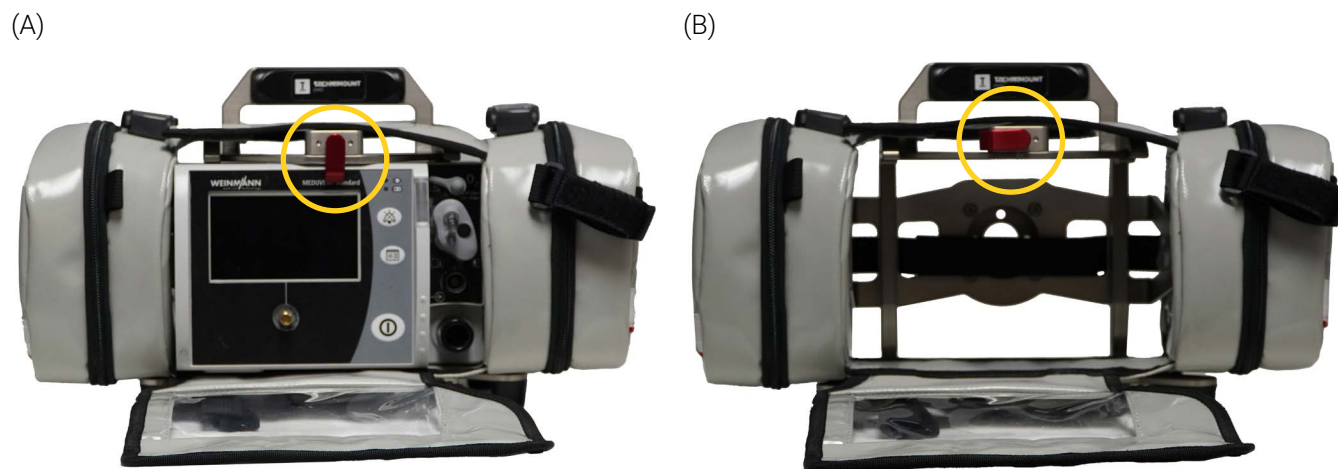

Figure 22: Removing the medical device from the BP380 – GR
1. Remove the medical device from the mounting bracket (Figure 22). Refer to steps 2 to 4 of the « Remove the Medical Device from the BP380 – GR » section on page 21 if needed.